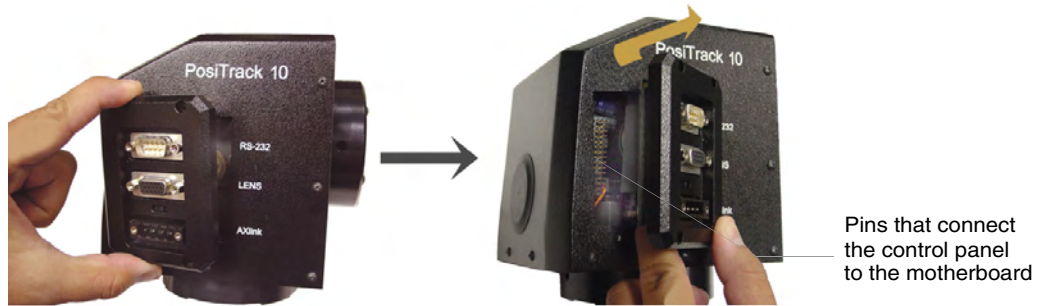

FIG. 7 Control panel removal for PT10 and PT15
4. Carefully pull the connector panel away from the main unit until the bottom edge of the cover clears the connector panel. Be careful not to damage the pins attached to the connector panel. FIG. 7 illustrates how to remove the control panel.